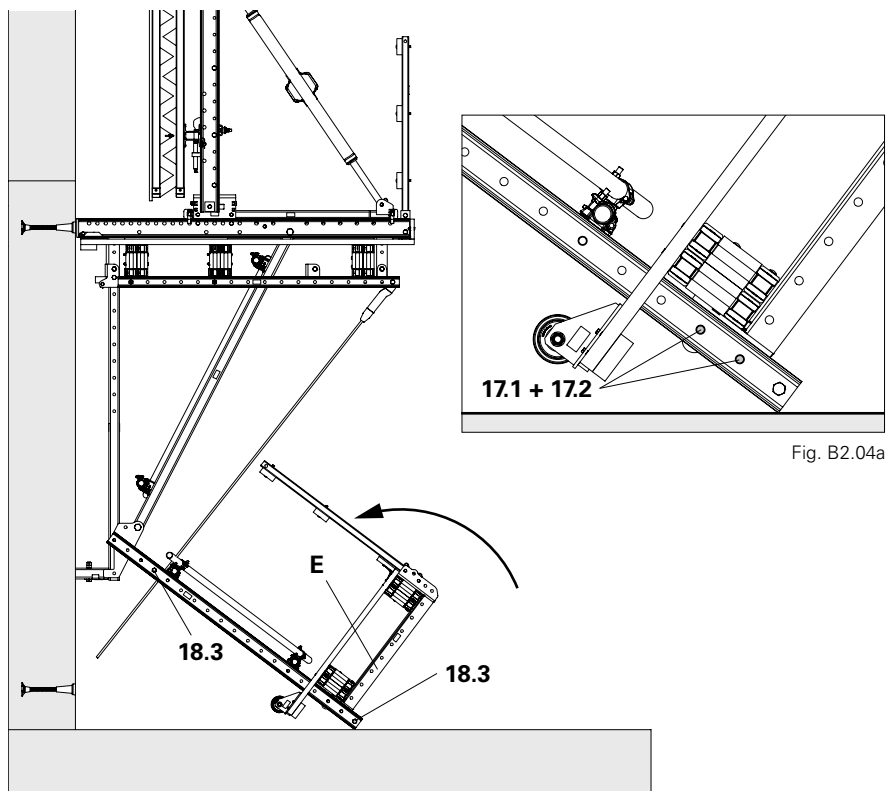

Fig. B2.04
9. Fold up guardrails and lock in place using fitting pins. (Fig. B2.04)